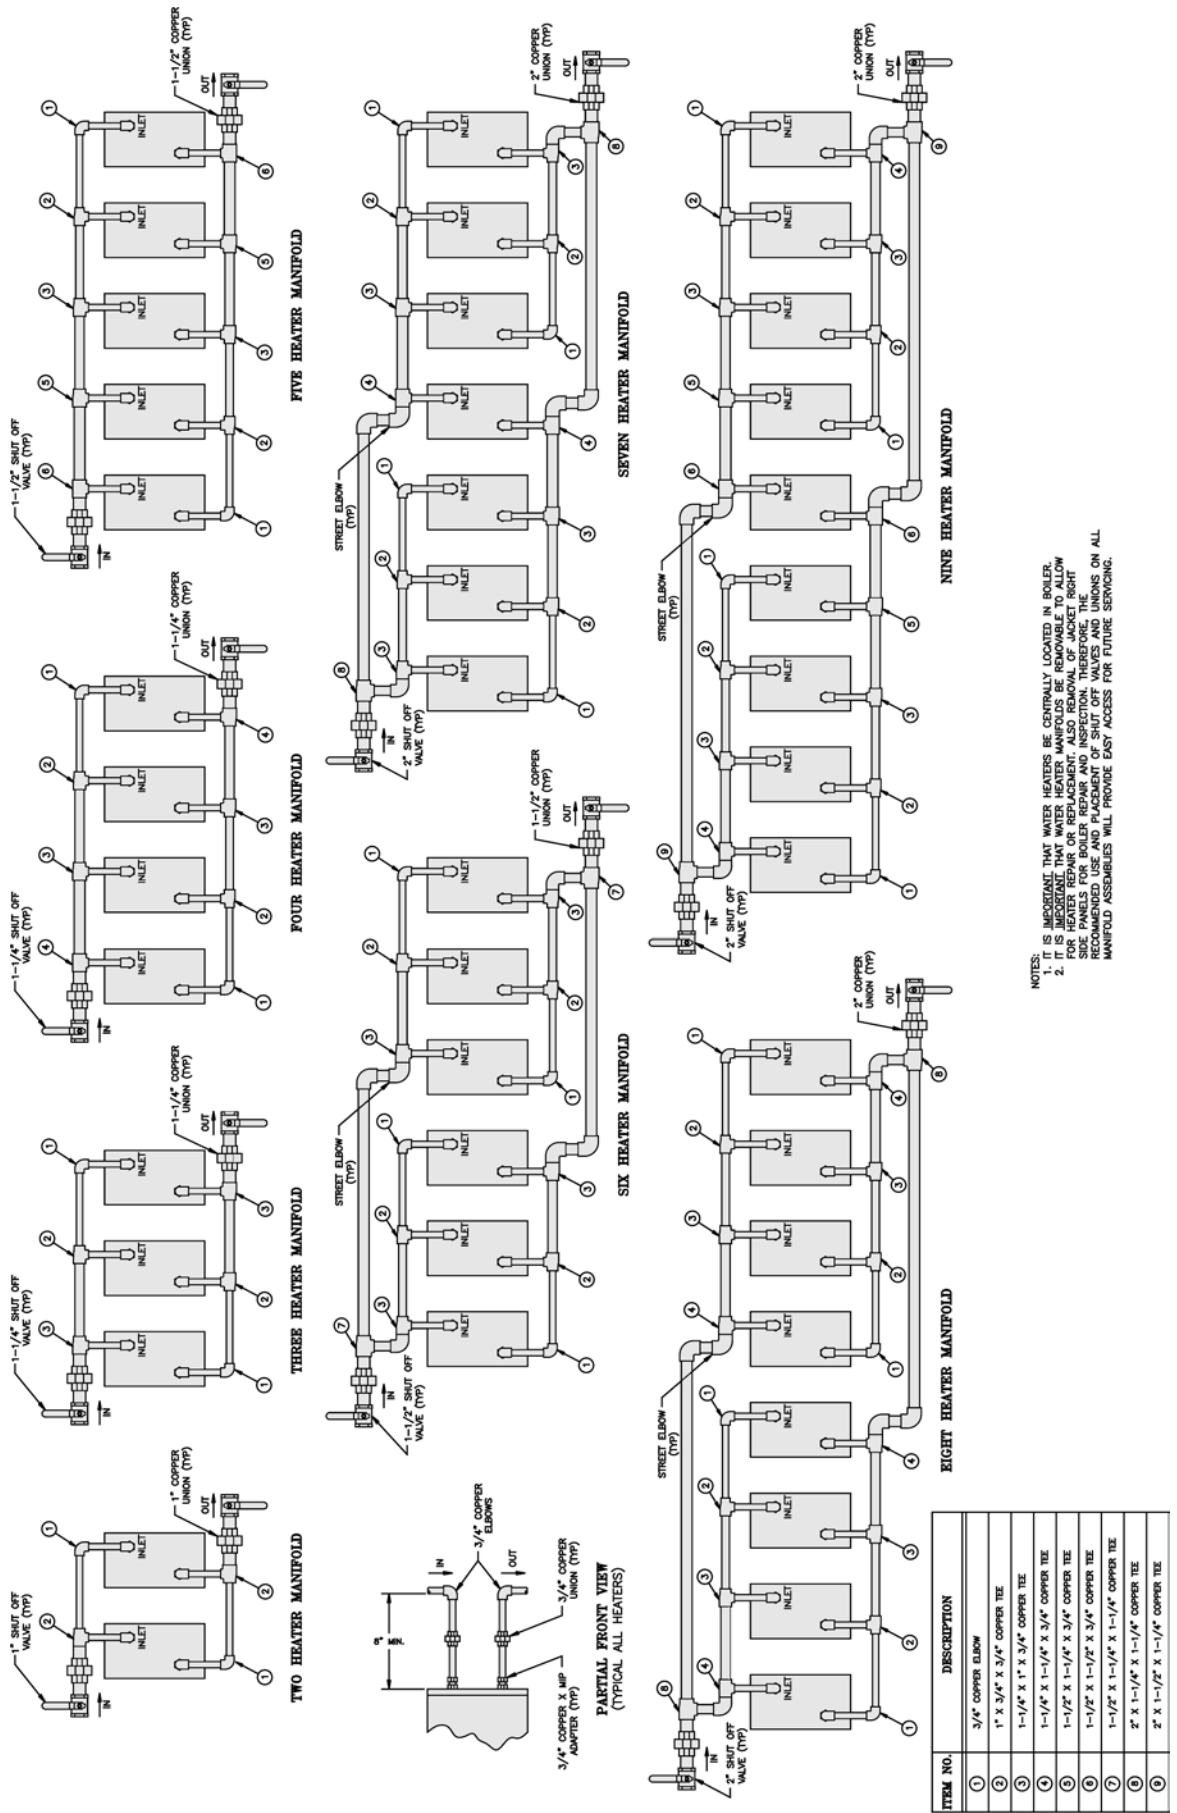

Figure 28: Minimum Piping Recommendations for V11H Series Tankless Heater Manifolds
7. **For boilers with tankless heaters**, install the tankless heater manifolds according to Figure 28.